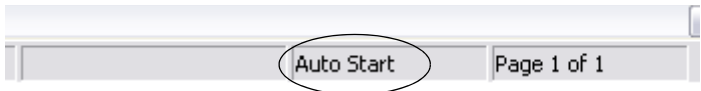

Figure 40. Auto Start in the Alarm List Status Bar
11. If **Automatic start of list when alarms are updated in stop mode** is selected the list automatically starts updating when new alarms or events are received in stop mode. An indication in the status bar shows that the enable auto start is activated, see Figure 40.